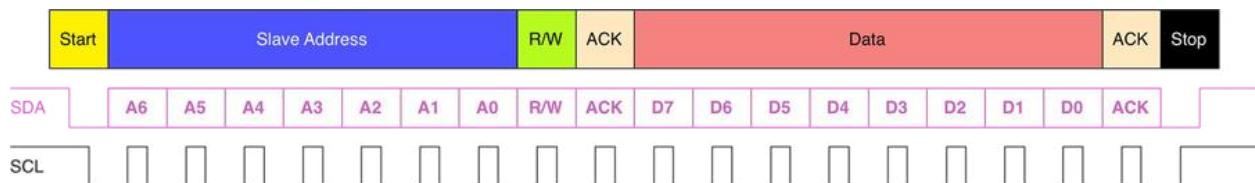

Figure 2: The structure of a base I²C message
All transactions begin with a START and are terminated by a STOP (see Figure 2). A HIGH to LOW transition on the SDA line while SCL is HIGH defines a START condition. A LOW to HIGH transition on the SDA line while SCL is HIGH defines a STOP condition.
Every word transmitted on the SDA line must be eight bits long, and this also includes the address frame as we will see in a while. The number of bytes that can be transmitted per transfer is unrestricted. Each byte must be followed by an *Acknowledge* (ACK) bit. Data is transferred with the *Most Significant Bit* (MSB) first (see Figure 2). If a slave cannot receive or transmit another complete byte of data until it has performed some other function, for example servicing an internal interrupt, it can hold the clock line SCL LOW to force the master into a wait state. Data transfer then continues when the slave is ready for another byte of data and releases clock line SCL.
The address frame is always first in any new communication sequence. For a 7-bit address, the address is clocked out most significant bit (MSB) first, followed by a R/W bit indicating whether this is a read (1) or write (0) operation (see Figure 2).